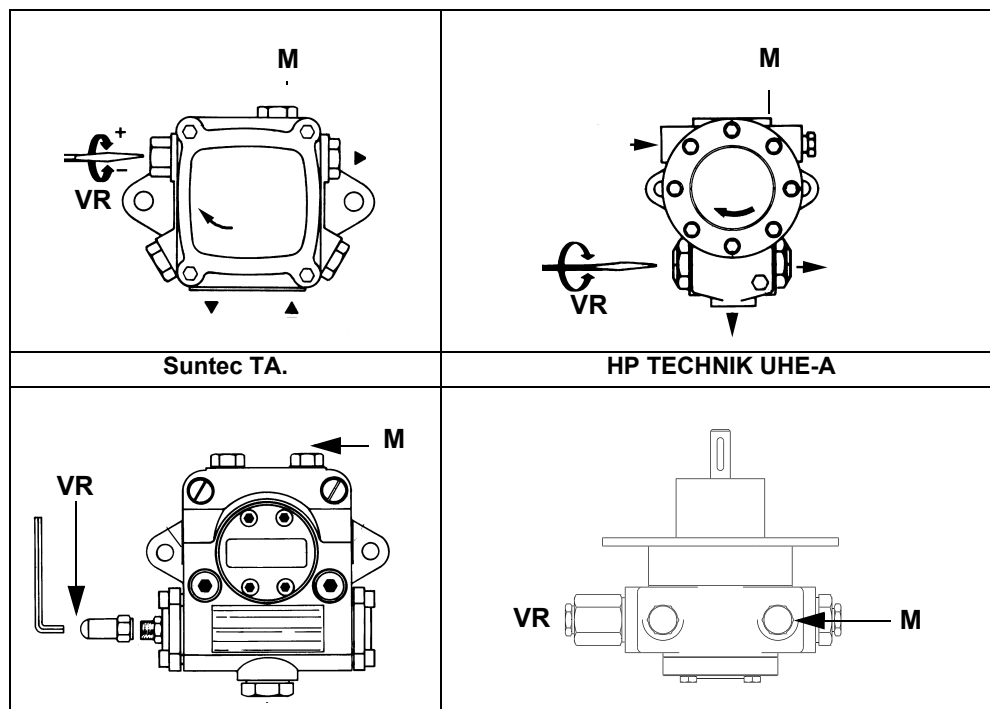
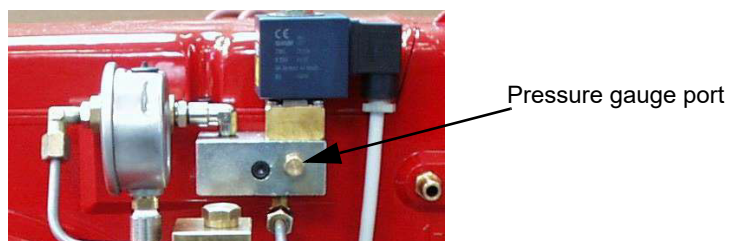
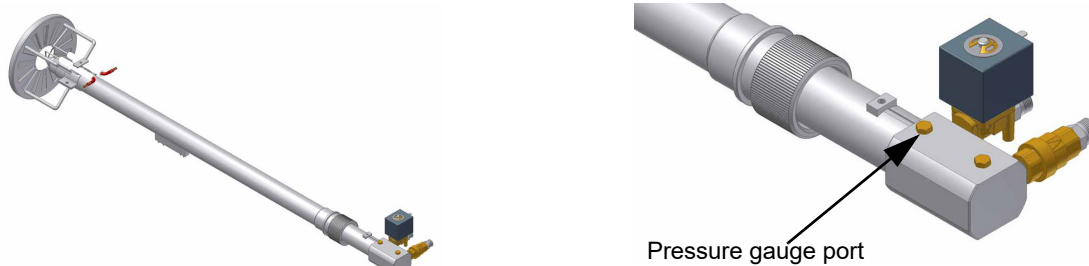

Fig. 8
Fig. 9 - Light oil manifold (PG60)
Fig. 10 - Combustion head with light oil gun (PG70 - PG81)
- 2 bleed the air from the **M** pressure gauge port (Fig. 8) by loosening the cap without removing it, then release the contactor.
- 4 Fig. 9 Fig. 10 the nozzle supply pressure is already factory-set and must not be changed. Only if necessary, adjust the supply pressure as follows (see related paragraph); insert a pressure gauge into the port shown on Fig. 9-Fig. 10 and act on on the pump adjusting screw **VR** (see Fig. 8) as to get the nozzle pressure at 20bar (Bergonzo nozzles - see diagram on Fig. 7).